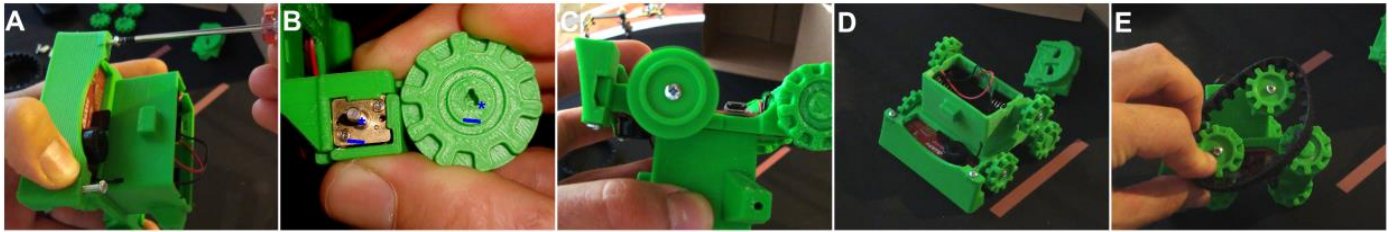

Figure B.7 – Attaching the scoop and wheels
To attach the scoop, slide it on the front of the chassis and put the long ($7/8''$) 4-40 machine screws through the top hole of the scoop. Press them down through the hole in the chassis (see Figure B.7 A). Then tighten the screws with a Philips screwdriver until their heads touch the scoop.
The motor wheels are attached by lining up the flat side of the motor shaft with the flat side of the wheel. In Figure B.7 B, both are marked with a blue asterisk to their right and a blue line about 2mm directly below the flat side. When lined up correctly, these wheels slide onto the motor shaft until they are about 1.5 mm away from touching the chassis and motor cover. Note if the motor wheels are loose and wobbly, they can be secured by applying a single, small droplet of Gorilla glue into the hole of the wheel and clamping the wheel in place with a rubber band or some weight overnight.
The other wheels are bolted on with the $1/2''$ long 4-40 machine screws. Tighten the screws until the wheel no longer spins freely, then back the screw out until the wheel spins freely after being flicked (see Figure B.7 C). Repeat until all 4 of these wheels are properly attached (D). Then pull the rubber tracks over the wheels (E).